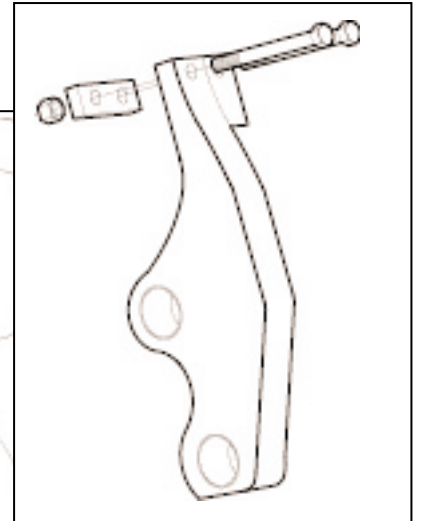
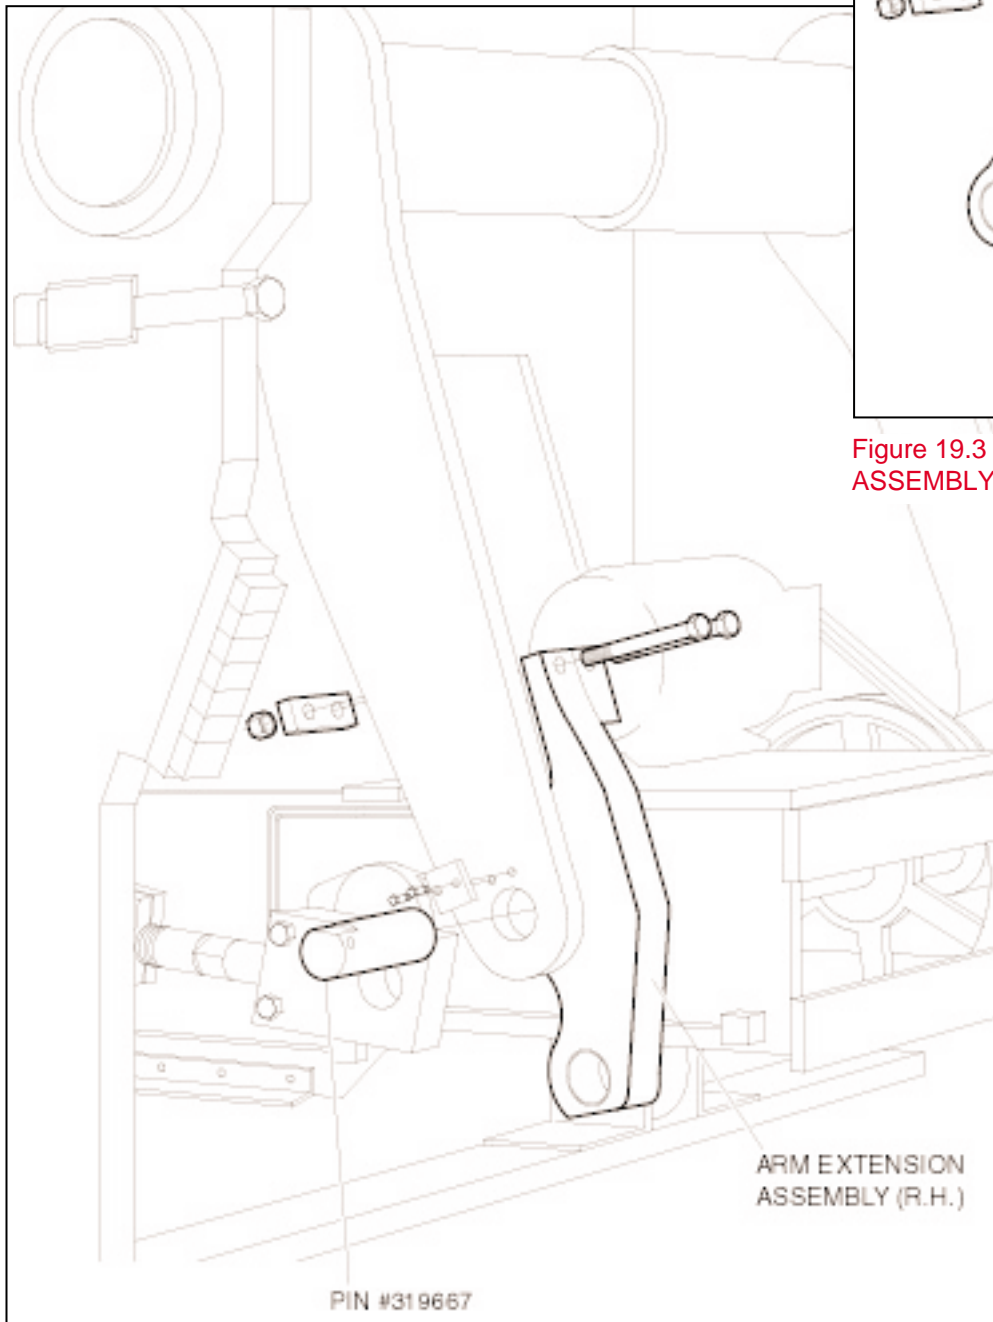

Figure 19.3 ARM EXTENSION ASSEMBLY (RH SHOWN).
Figure 19.4 INSTALLING THE ARM EXTENSION ASSEMBLIES.
- 19.1.3 Install arm extension assemblies #472905 on LH arm and #472906 on RH arm (figure 19.3). Use pins #319667. Tighten 1" X 12" bolts evenly. Torque to 212 ft/lbs. Figure 19.4 below shows how to install the right hand side (RH).